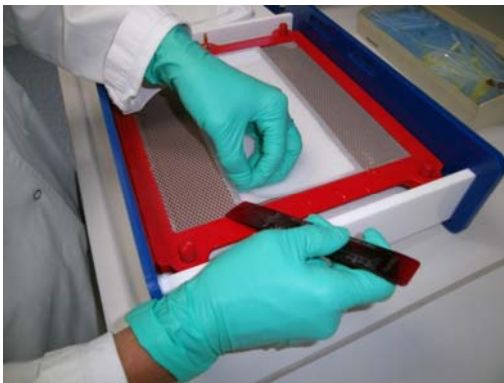

Fig. 18
- Carefully lift the edge of the film with a spatula (Fig 18).